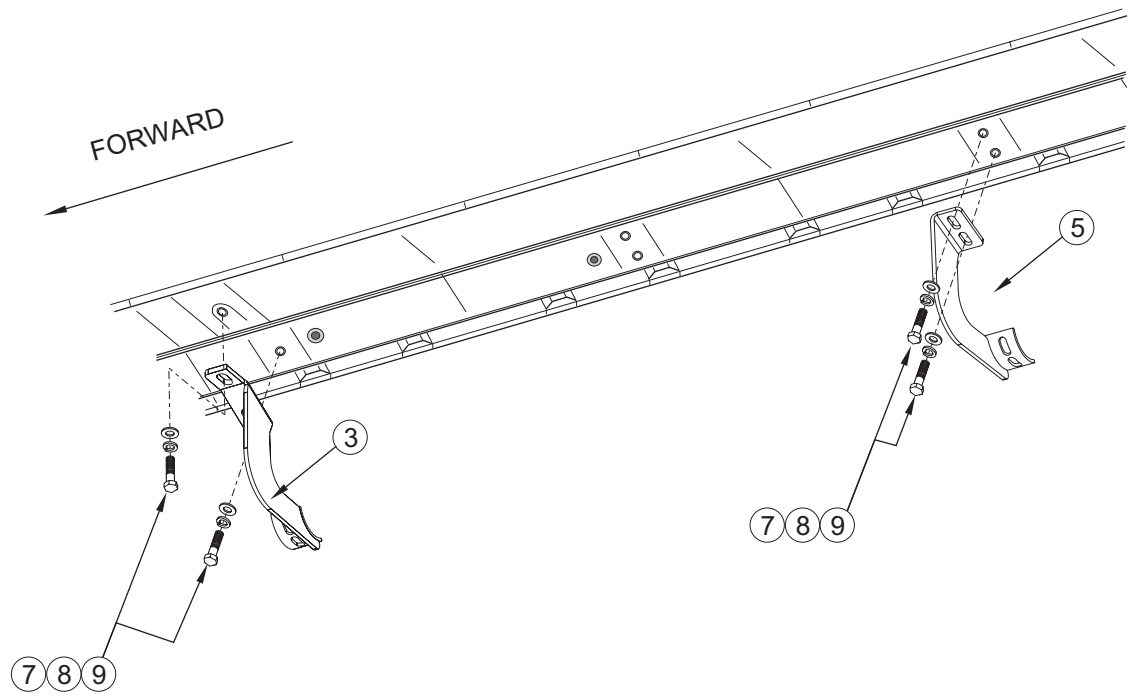

FIGURE 1 PASSENGER SIDE SHOWN
- STEP 3. Attach passenger side brackets to underside of body panel using two M8-1.25 x 30mm hex head bolts, M8 flat washers, and M8 lock washers per bracket. Hand tighten. **SEE FIGURE 1.**